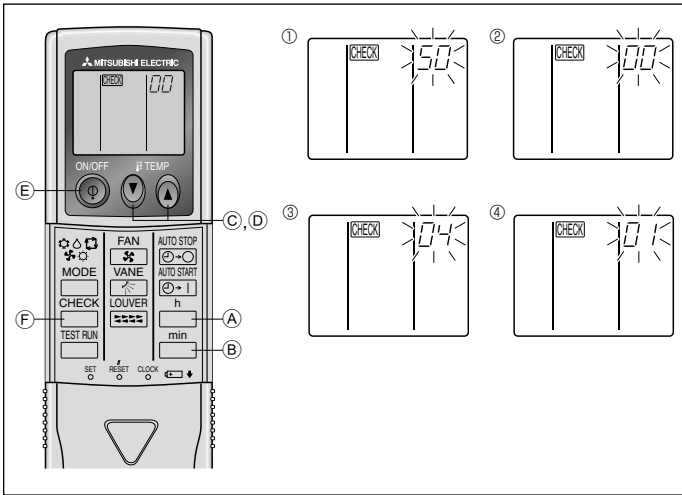

Fig. 6-6
2) For IR wireless remote controller (Fig. 6-6)